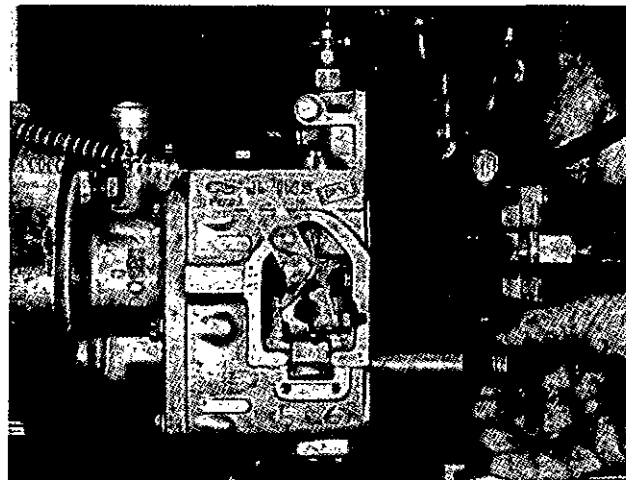

Fig. 10-17, (F5328). Shim the governor spring for high speed.
9. If the speed is lower than the specification, add shims between the governor spring and spring retainer, Fig. 10-17. See Table 18-1 for the spring specifications. To lower the speed, remove the shims. Each 0.001 inch shim thickness will change the speed approximately 2 rpm. Shims are available in 0.005, 0.010 and 0.020 inch [0.13, 0.25 and 0.51 mm] thickness. If over .150 in [3.81 mm] shims are required, replace the spring.